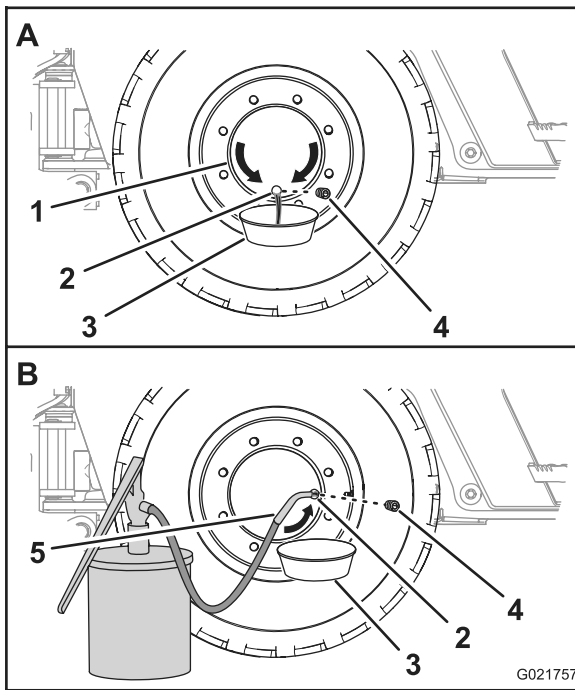

Figure 63
1. Move the machine forward or backward until the oil plug for the wheel hub is at the 6 o'clock position (Figure 63).